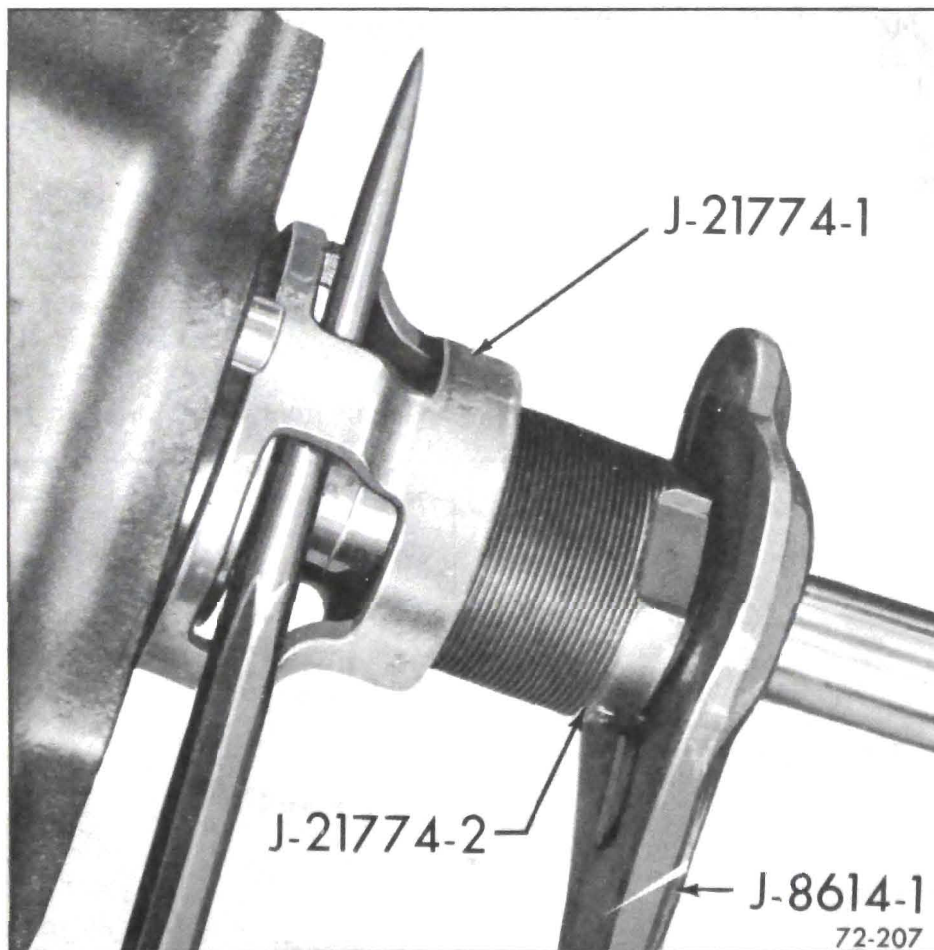

Figure 72-207 - Removing Rear Bearing
15. Remove rear bearing as follows: See Figure 72-207.